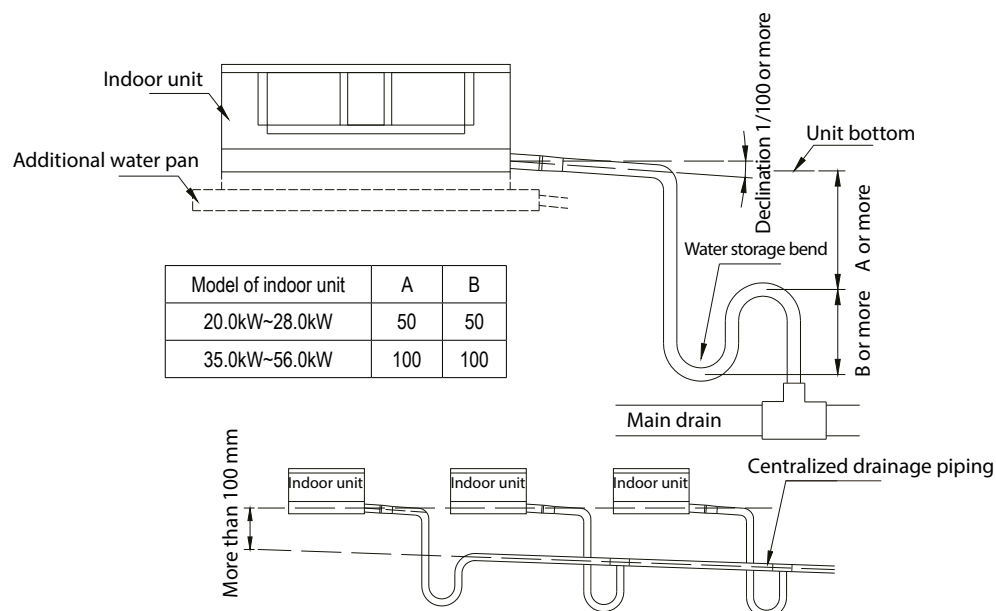

Figure 4.2
- See Figure 4.2 for the piping when you install the drain pipe in a centralized manner.